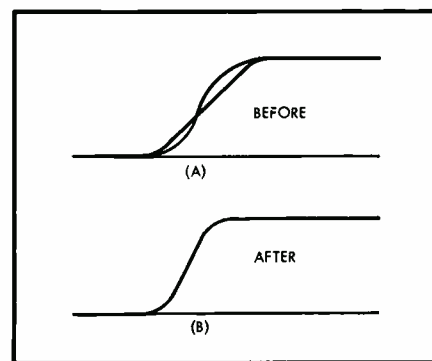
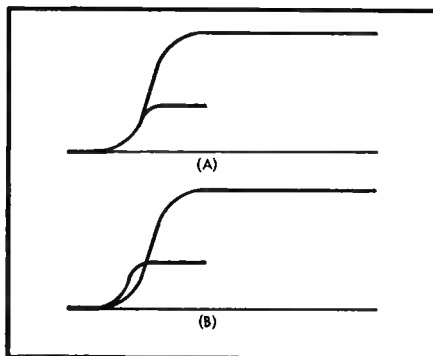

Fig. 3. The use of feedback will just steepen up the rise, we hope. But see Fig. 4.
Fig. 4. Drawing the curves of *Fig. 3* to the scale of equal inputs, we may find (A) no feedback during transient, or (B), positive feedback.
Of course what we very commonly do with our feedback is "improve" the frequency response. The result is that the square wave which came out of the amplifier alone shaped like (A) in Fig. 3 is improved to the shape shown at (B). Here we have been very clever and designed matters so that there is no overshoot, no ringing on the top of the leading edge. Are we safe now? Rather reluctantly I have come to the conclusion that we are still not absolutely sure that we shall avoid transient distortion due to overloading. To help in analyzing the situation I have drawn Fig. 4. When I drew Fig. 3, I made both the rounded steps the same size because it is easier to compare them, and also because we usually think in terms of a given output. But in doing this, I threw away a lump of information. Those readers who have followed what goes on outside audio and TV will know that in recent years a lot of engineers have been spending all their time studying nothing but the theory of information and that they actually measure it in units called
To keep in the information about the feedback we must show the outputs based on the same input level and this reveals a rather interesting effect. The faster rise time with feedback on may just be due to the fact that the output isn't going so far, or it may be because it is actually rising at more volts per second. I have shown the first of these conditions at (A) in *Fig. 4*, and the second at (B). We can reasonably say that during the rise period in (A), the negative feedback just hasn't come into operation, while during the rise period in (B), there is some positive feedback, or negative feedback which has gone more than 90 deg. away from the right place, helping to speed things up.